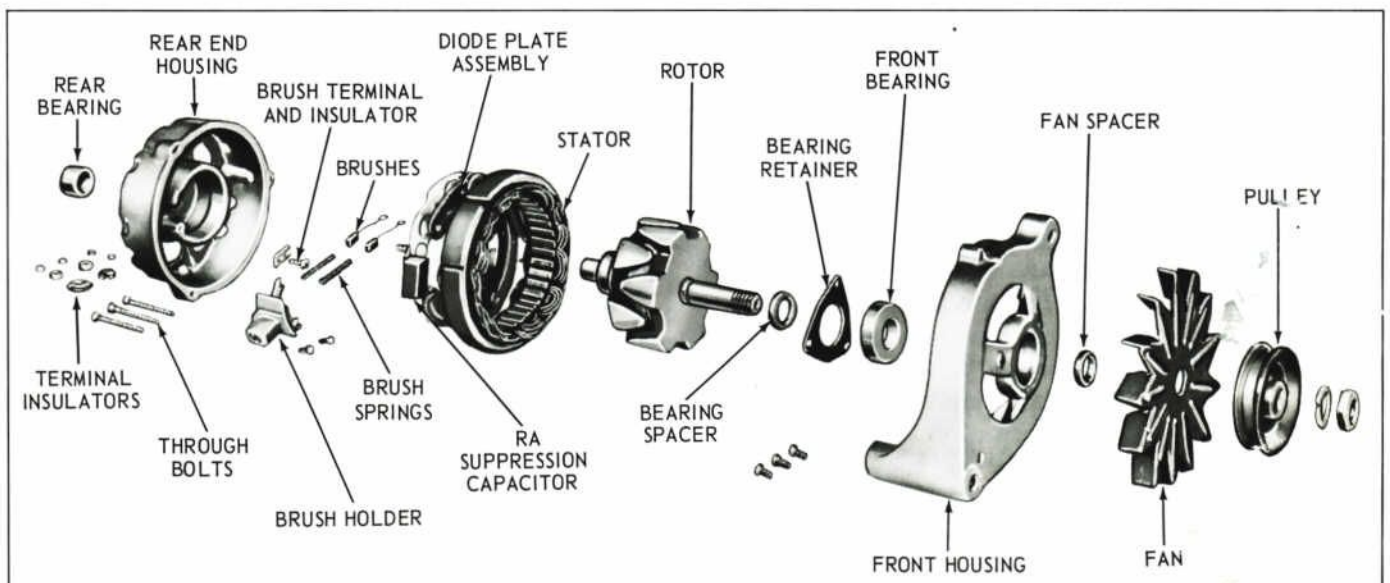

FIGURE 54. 1964-66 ALTERNATOR (EXPLODED VIEW)
1. Place a scribe mark on both the front and rear alternator housings to facilitate alignment during re-assembly. Refer to Figure 54 for guidance during the disassembly procedure.